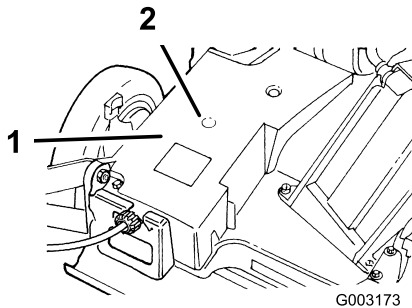

Figure 22
2. Wipe the grease fittings with a clean rag (Figure 22).
3. Install a grease gun onto the fitting through the belt cover opening (Figure 22).